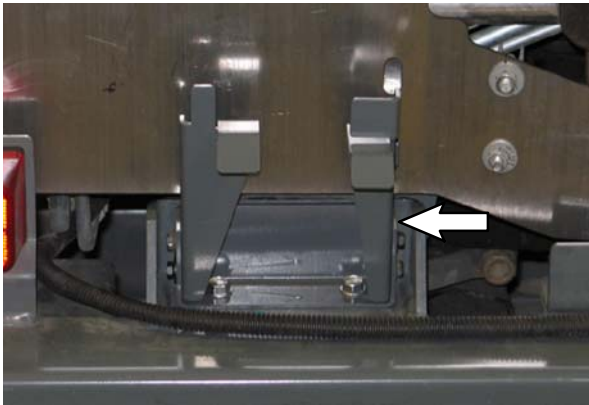

FIG. 81
102. Use two hex screws (108) to install the bracket (107) onto the machine. (Fig. 81)